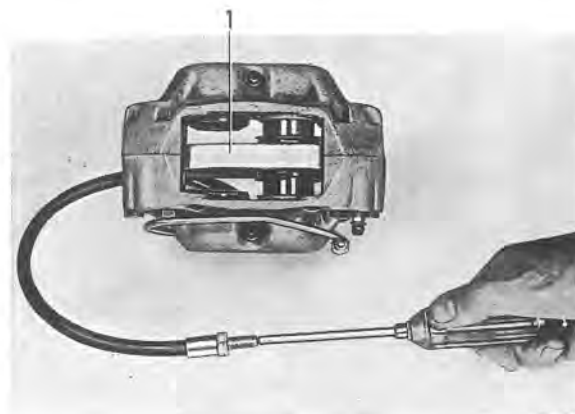
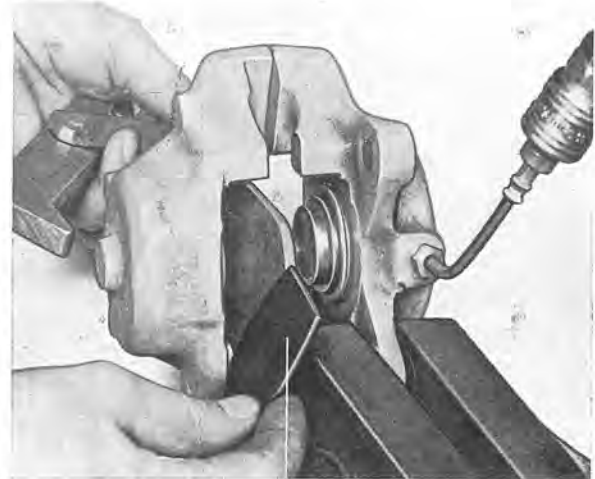

Fig. 5-22. Removing pistons
Fig. 5-28. Removing piston
and press them out against the wood with the help of compressed air, see Fig. 5-22. The pistons can then be easily removed. Should any piston be so stiff that more pressure is required, connect up an air line, see Fig. 5-28. Lever off the rubber dust covers.
4. Fit the rubber covers on the plunger and housing. Fit the lock rings, compare Fig. 5-28.
If any piston is so stiff that greater pressure is required, connect up an air line, see Fig. 5-28. If one of the pistons has been removed, the cylinder can be sealed with a rubber washer and 2809 (see Fig. 5-28).